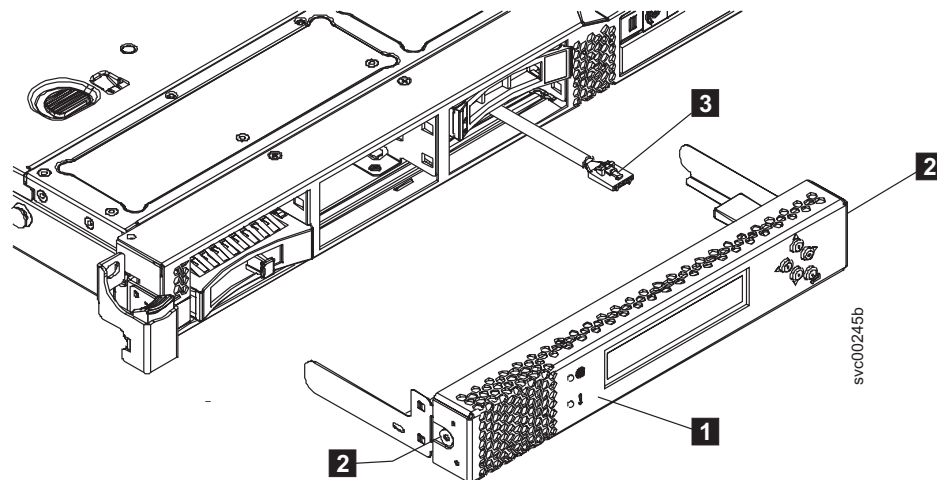

Figure 78. SAN Volume Controller 2145-CF8 service controller
9. If you are intending to replace the service controller FRU, detach the USB cable, shown by 3 in Figure 78, from the service controller.